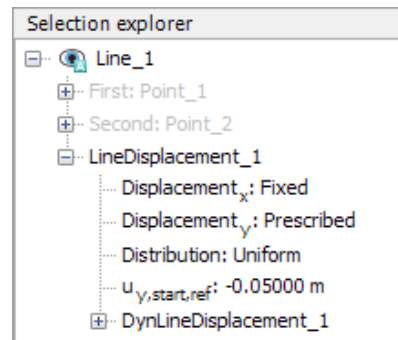

Figure 1-9: Prescribed displacement in the Selection explorer
- 8 Specify a uniform prescribed displacement in the vertical direction by assigning a value of -0.05 to $u_{y,start,ref}$, signifying a downward displacement of 0.05 m as shown in Figure 1-9 \(p. 21\).